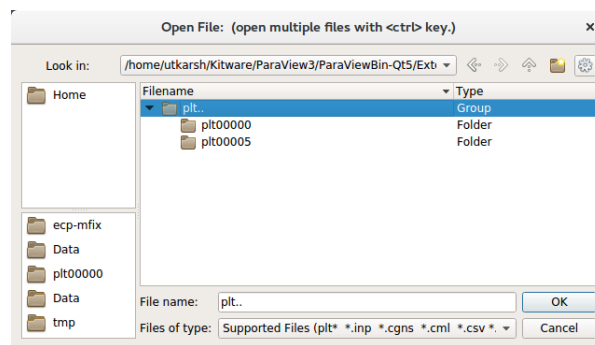

Fig. 18.3: : File dialog in ParaView showing a group of plotfile directories selected
2. Navigate to your run directory, and select the fluid or particle plotfile. Note that you can either open single or multiple plotfiles at once by selecting them one by one or select a file ensemble, labeled as `plt..` and indicated as a Group in the “Type” column of the file explorer (see Fig. 18.3). In the latter case, ParaView will load the plotfiles as a time series. ParaView will ask you about the file type – choose “AMReX/BoxLib Grid Reader” or “AMReX/BoxLib Particles Reader”. Note that if your plotfile prefix is not `plt` or any other type supported by default, then in `Files of type` you need to first select `All files (*)`.
Open ParaView, and then select “File” → “Open”. In the “Files of Type” dropdown menu (see Fig. 18.3) choose the option All Files (\*). Then choose `plot_files.series` and click “OK”. Now the plotfiles have been loaded as a Group as in Step 2 of section ParaView. Now, you can follow the steps 2 to 7 in the section ParaView to plot.
1. Run ParaView v5.7, and select “File” → “Open”. You will see a combined “plt.” group. Click on “+” to expand the group, if you want to inspect the files in the group. You can select an individual plotfile directory or select a group of directories to read them as a time series, as shown in Fig. 18.3, and click “OK”. ParaView will ask you about the file type – choose “AMReX/BoxLib Particles Reader”.